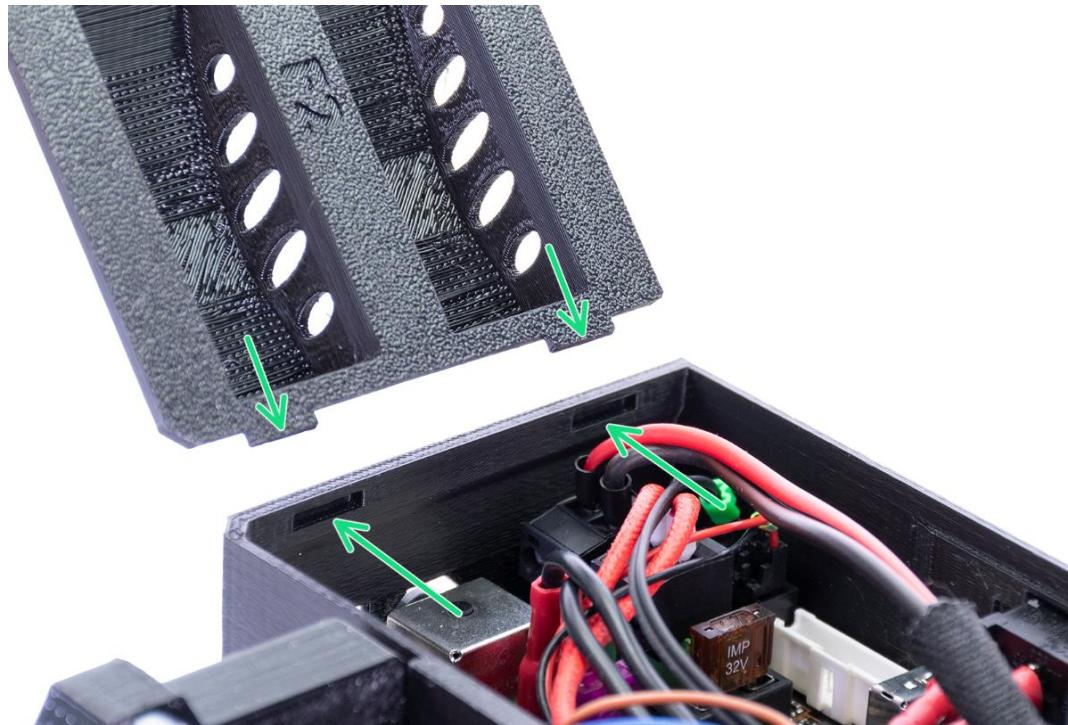

Figure 5.3.1
**Step 5-3-1:** As shown in Figure 5.3.1. Insert the cover , make sure it is properly seated in the slot.